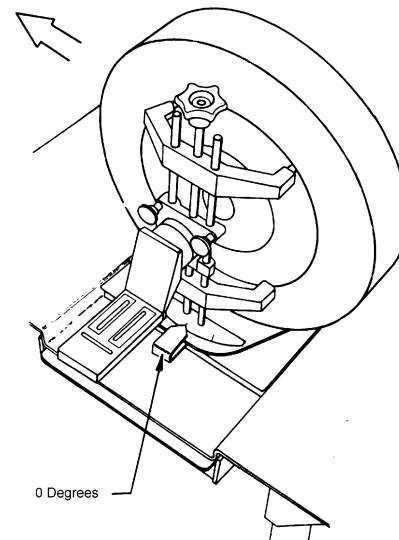

Figure 13
- 5) Mount the Spirit Level Gauge on the left front Wheel Clamp. (See Fig. 13) Be sure the magnet is centered on the mounting disk.